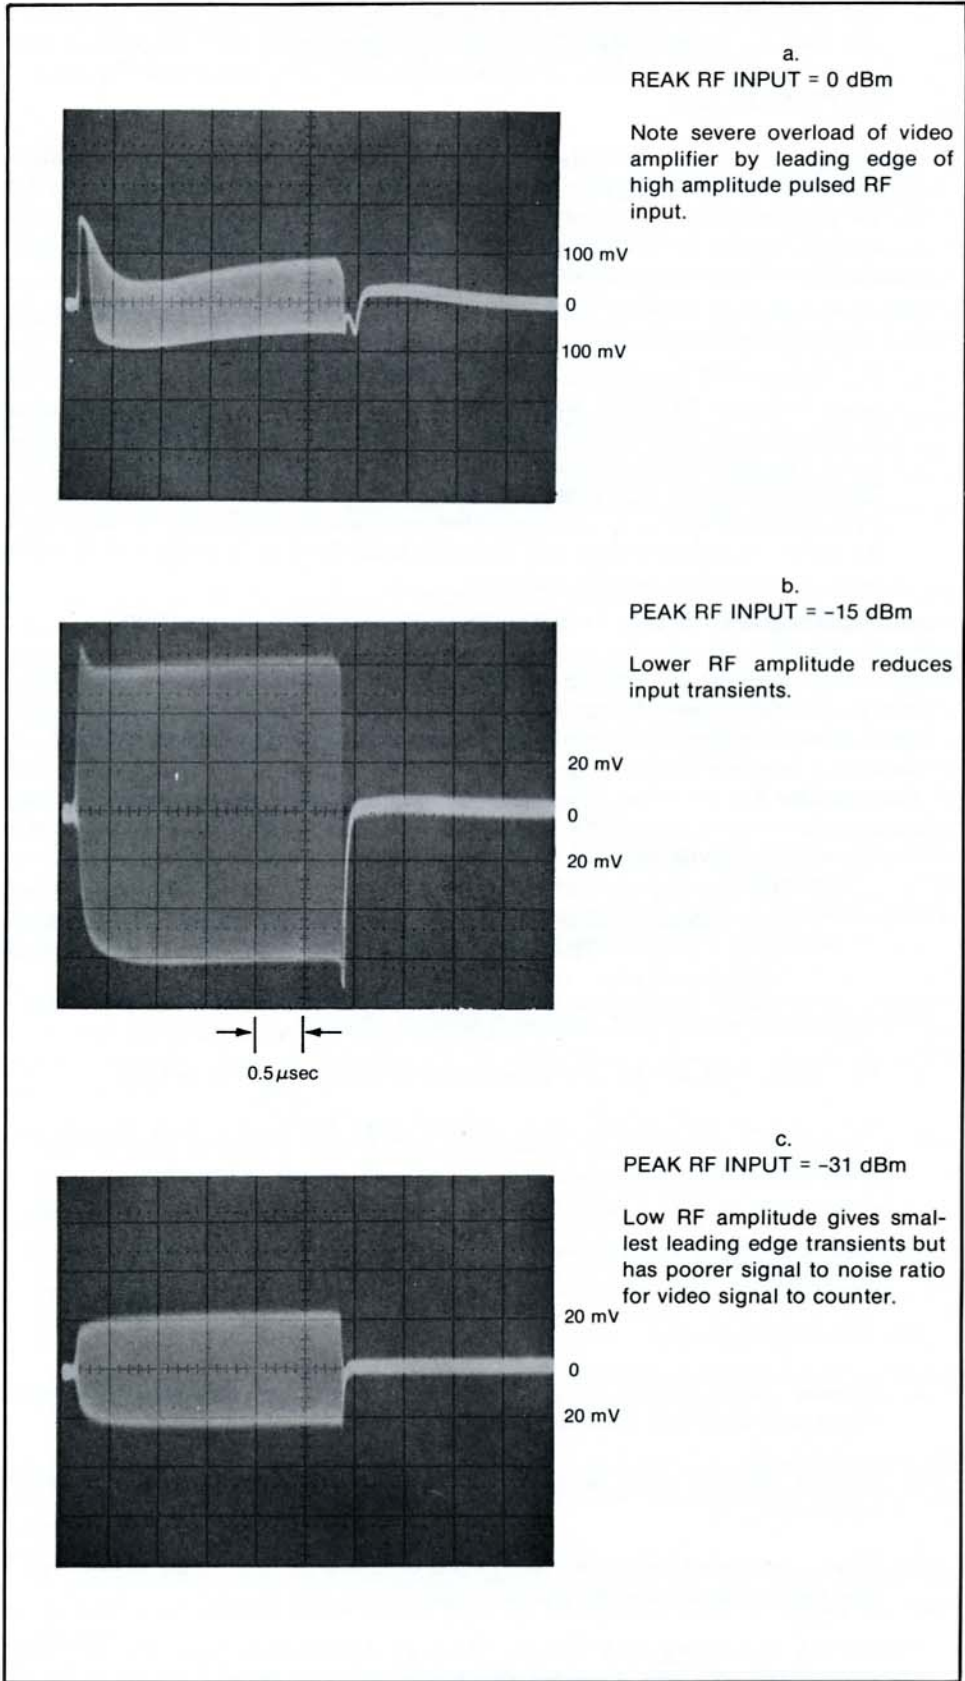

FIGURE V-1 AUX OUT (VIDEO) from the H12-5255A displayed on a 100 MHz oscilloscope with sweep of $.5 \mu\text{sec}/\text{division}$. Signal input of 3.46 GHz.
- RF input level is more critical when measuring pulsed RF than when measuring CW signals. A high amplitude RF pulsed signal gives a better signal to noise ratio at the video output of the plug-in but it also introduces a bigger step at the beginning and end of the pulse as shown in FIG V-1. This can degrade measurement accuracy. Pulse modulators can also introduce spurious frequencies at the beginning and end of pulses and this also causes measurement problems even when signal levels are set correctly.